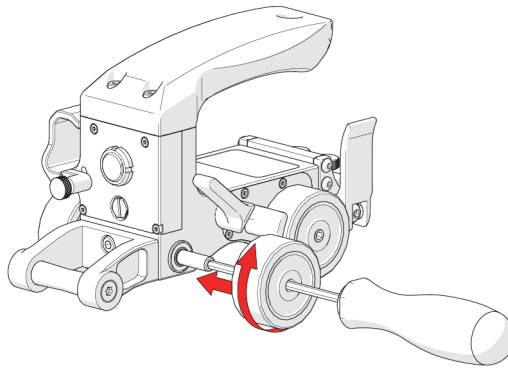

Figure 2-4 Wheel installation
3. Reverse these steps to install wheels on the cart (see Figure 2-4 on page 40).